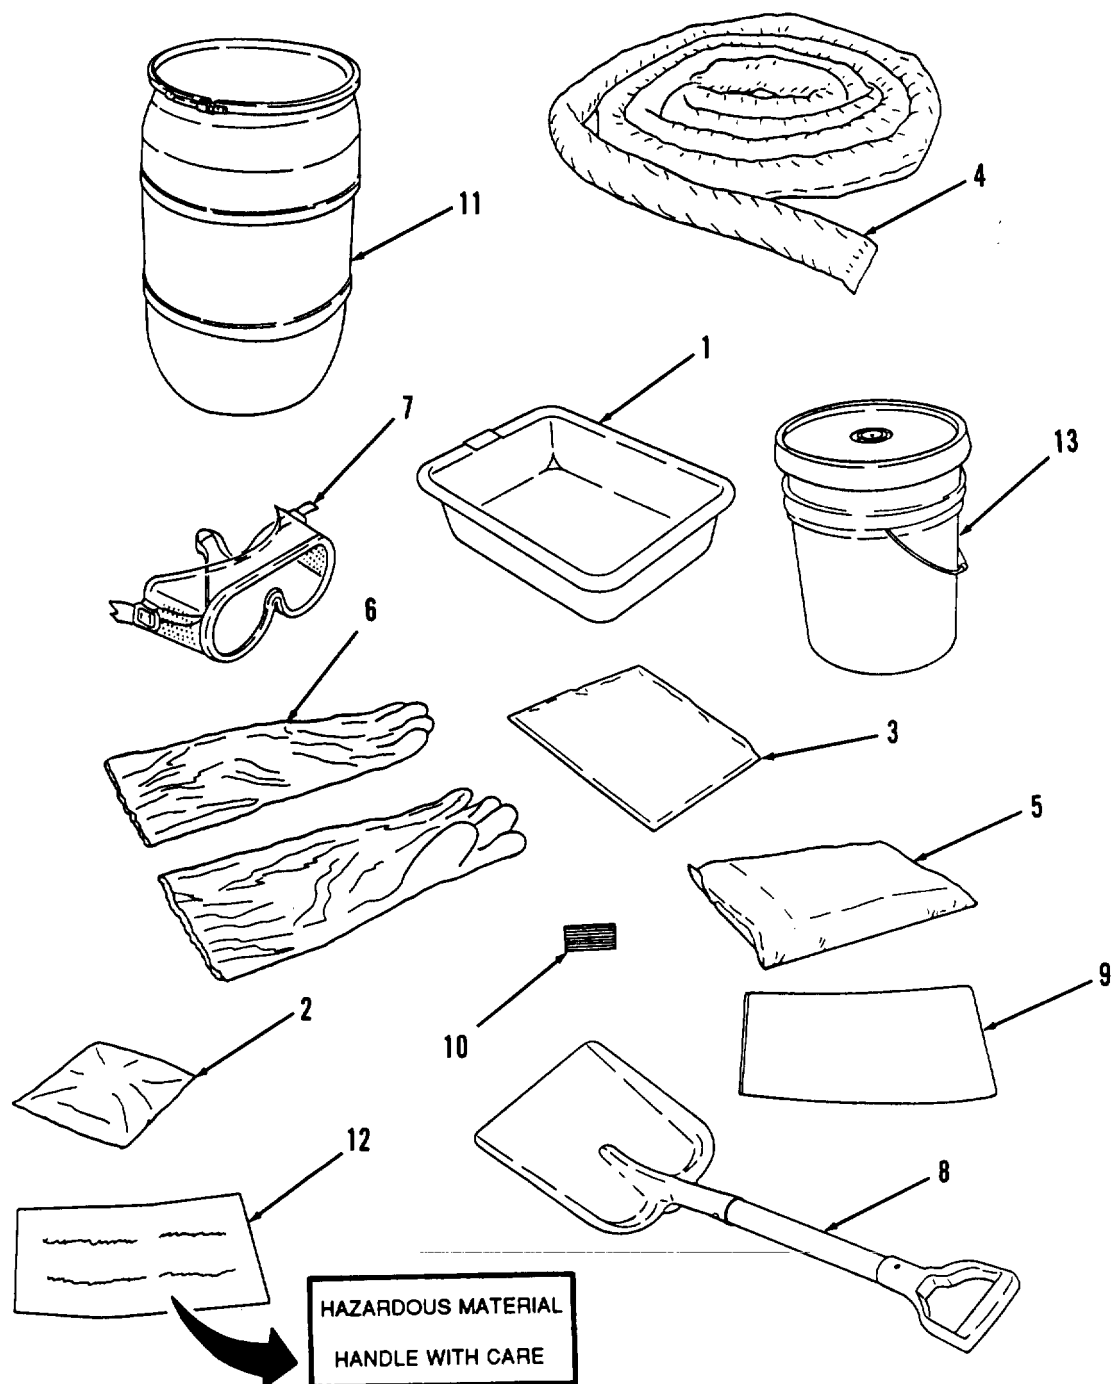

Figure 2-1.1. Spill Control Kit.
(1) **All Spills.** Detailed instructions must be given by the responsible environmental authority. Each spill must be treated as an individual case because of size, type of fuel involved, wind conditions, weather, equipment available, possible involvement of vehicles, and other similar variables. In general, the following are basic actions that should be considered and carried out to prevent spills if spills occur with the FSSP (Refer to Figure 2-1.1.):